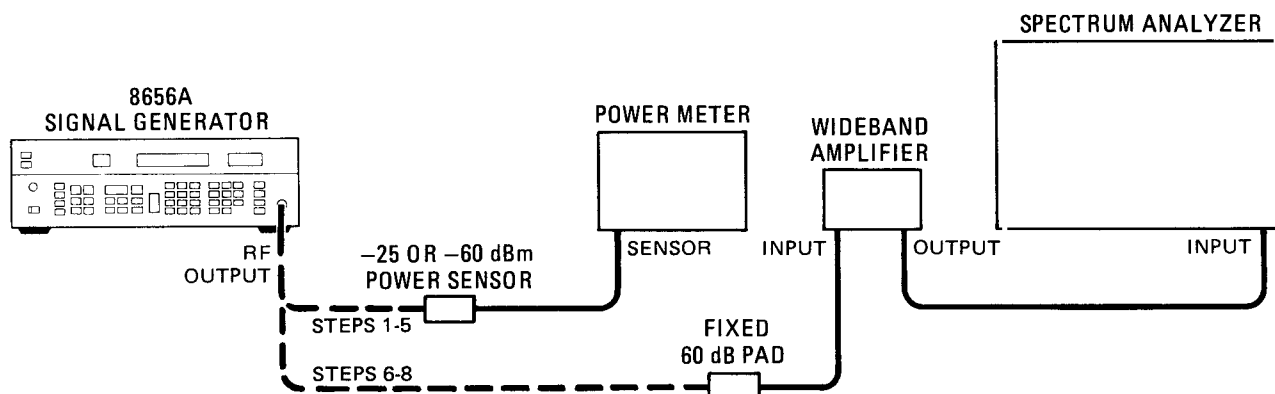

Figure 4-6. Low Level Accuracy Test Setup
2. Connect the power sensor to the power meter and to the RF OUTPUT of the Signal Generator as shown in Figure 4-6. Zero the power meter and adjust the power sensor to the power meter.
6. Connect the 60 dB pad to the RF OUTPUT of the Signal Generator and connect the signal through the wideband amplifier as shown in Figure 4-6. View the signal on the spectrum analyzer and set the reference level of the spectrum analyzer one division above the signal in the 2 dB log amplitude mode. Use well shielded RF cables or leakage will affect the accuracy of the results.